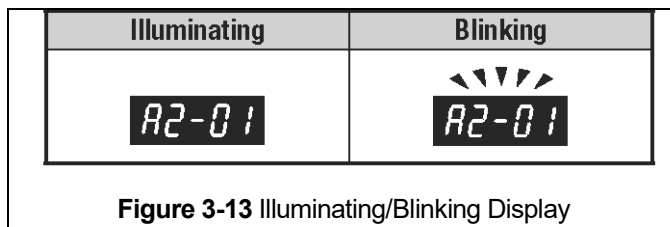

**Figure 3-12** VFD Keypad/Display Interface
3.5.4 The VFD is controlled by a Keypad/Display Interface. Refer to **Figure 3-12** for Keypad/Display Interface functions and descriptions.